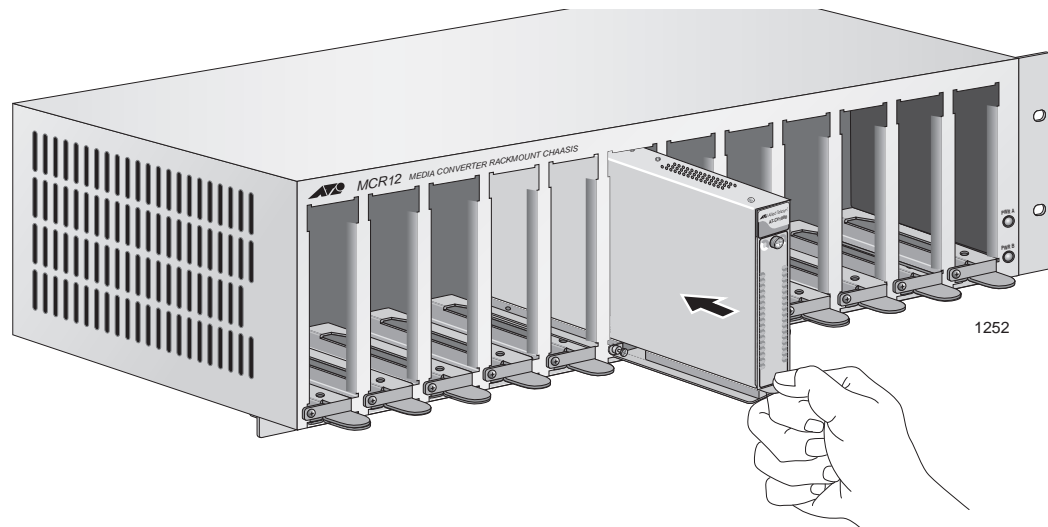

Figure 14. Sliding the CV1000 into the MCR12 Chassis Slot
5. Use the thumb tab on the adapter to slide the CV1000 chassis into the MCR12 chassis, as shown in Figure 14.